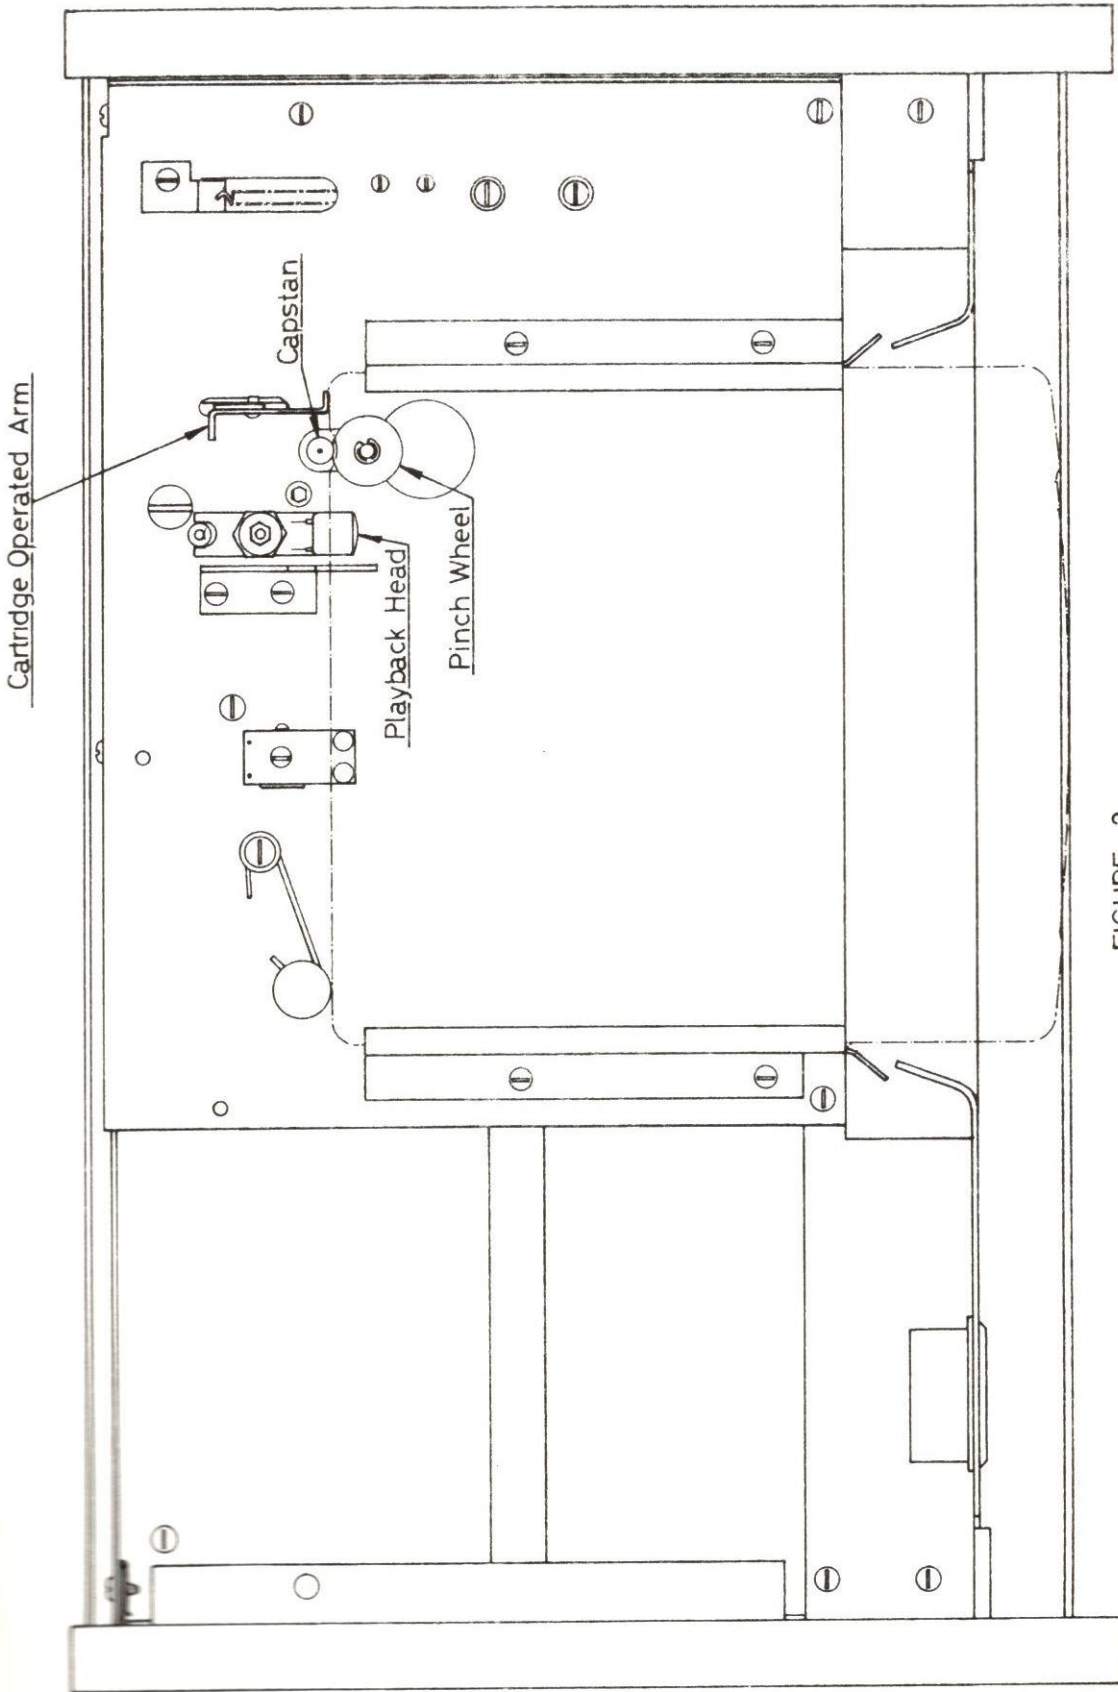

FIGURE 2
Top view, less cover	Figure 2
- Cause: Defective cartridge - try another one. Excessive deposit of graphite or oil on pinch wheel (see Fig.2). After disconnecting the mains, remove the top cover of the machine by removing three screws from its rear edge. Lift up the pinch wheel by pressing backwards on the cartridge operated arm. Clean the rubber surface of the pinch wheel with a piece of clean, lint-free cloth, moistened (not wet) with Methylated Spirit. Also, wipe the capstan. Replace the top cover and then re-insert the mains plug.
Playback head dirty (see Fig.2)